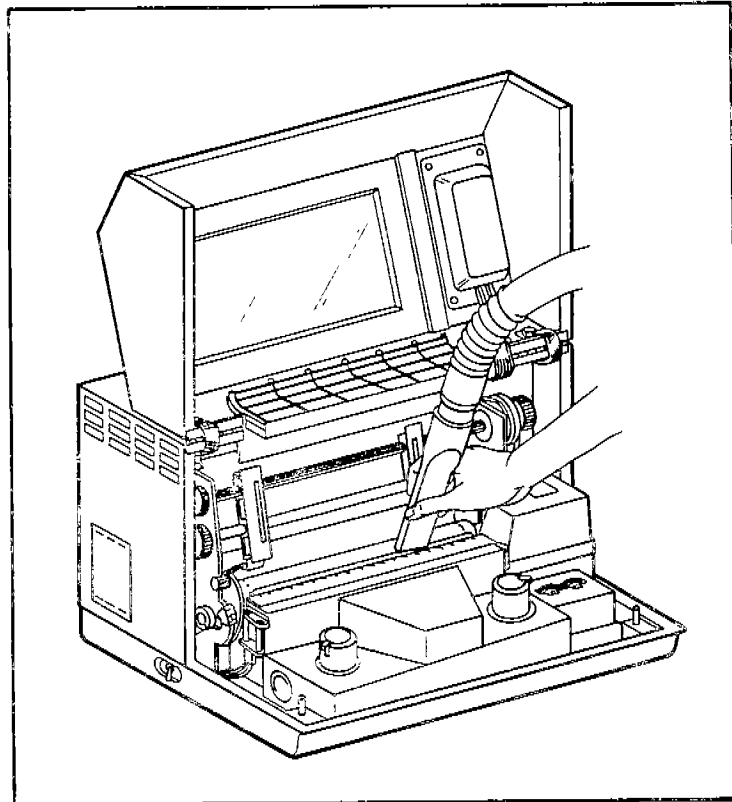

FIGURE 2-12.
3. Use a vacuum to clear dust and chaff from the base and paper path areas. Figure 2-12.